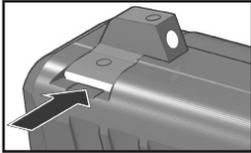
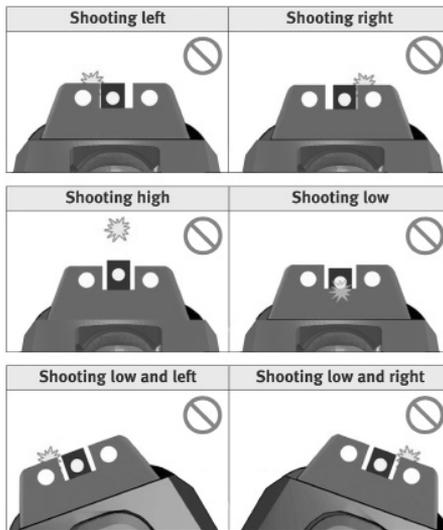
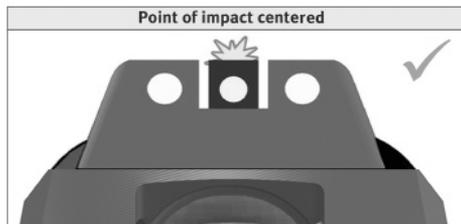

Figure 17 — Adjusting front sight by lateral shifting
Figure 19 — Common sight alignment errors
Figure 20 — Correct sight alignment
P30 Series pistols are equipped with a three dot sighting system, similar to those pioneered by Heckler & Koch on the P7 Series pistol in the 1970s. The sights are adjustable for both windage (by drifting) and elevation (by replacement of the front sight). Sights are installed and aligned by HK technicians at the factory. It is recommended that only an HK certified armorer should adjust or replace the P30 sights (Figure 17& 18). Figure 19 shows common sight errors. Figure 20 shows correct sight alignment
1. Acquire the proper sight alignment and sight picture (see Figure 20).